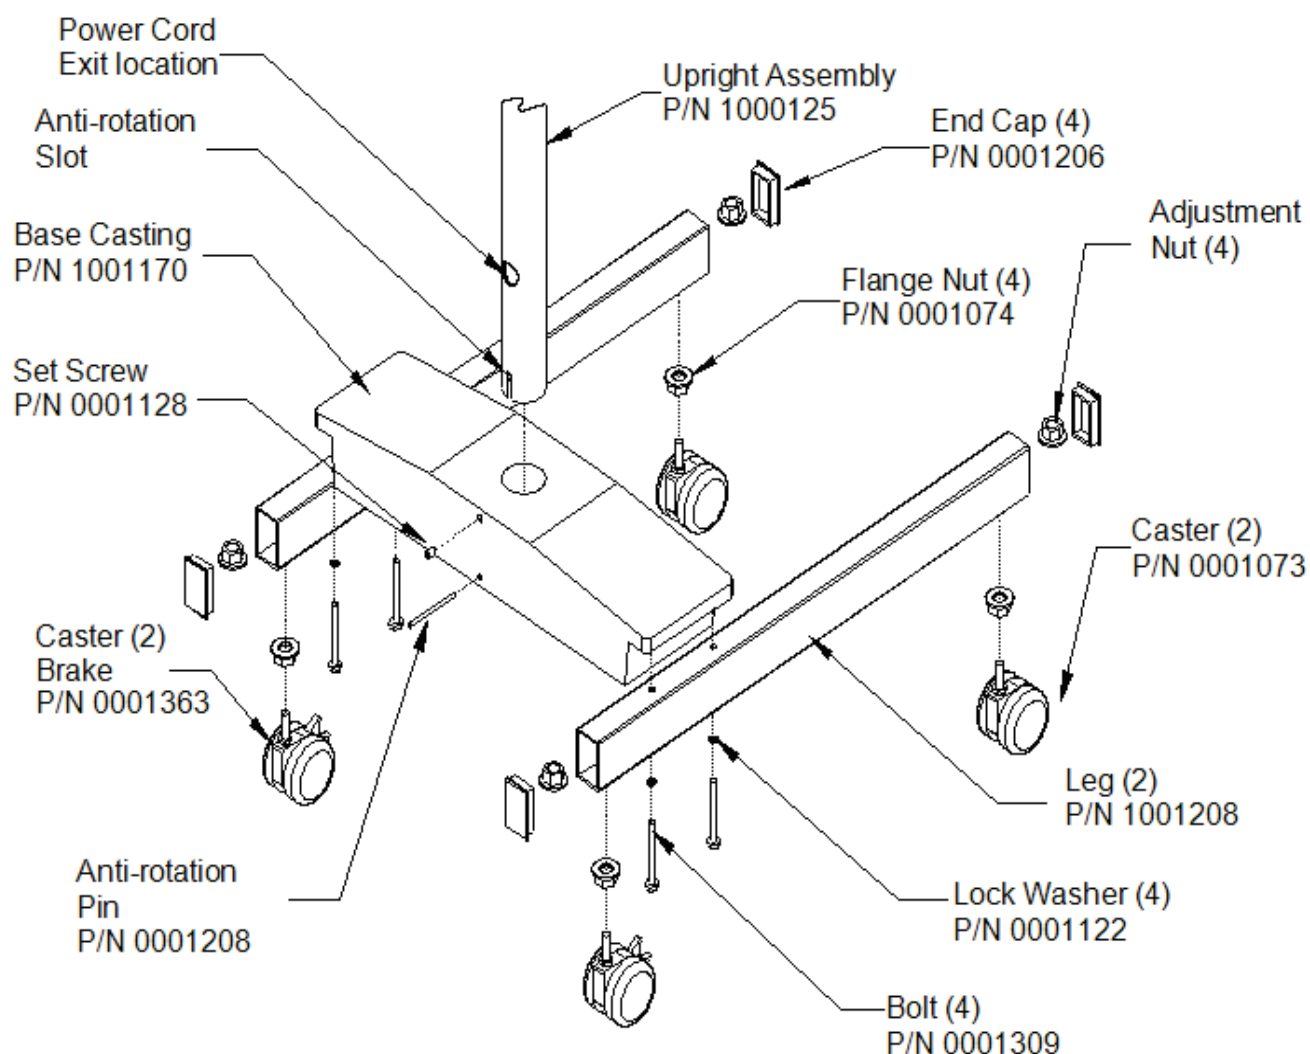

Figure 13: Floor Stand Base Installation
- Bolt the assembled legs onto the cast iron base using four 1/4"-20 x 1-3/4" bolts and 1/4" lock washers. Position the floor base casting so that the set-screw in the base is at the rear of the assembly (Figure 13: Floor Stand Base Installation).
- To level the base, remove the end caps at the end of each leg and adjust the caster bolts and nuts. Once the base has been leveled, tighten the nuts securely and insert the leg cap in the end of each leg (Figure 13: Floor Stand Base Installation).